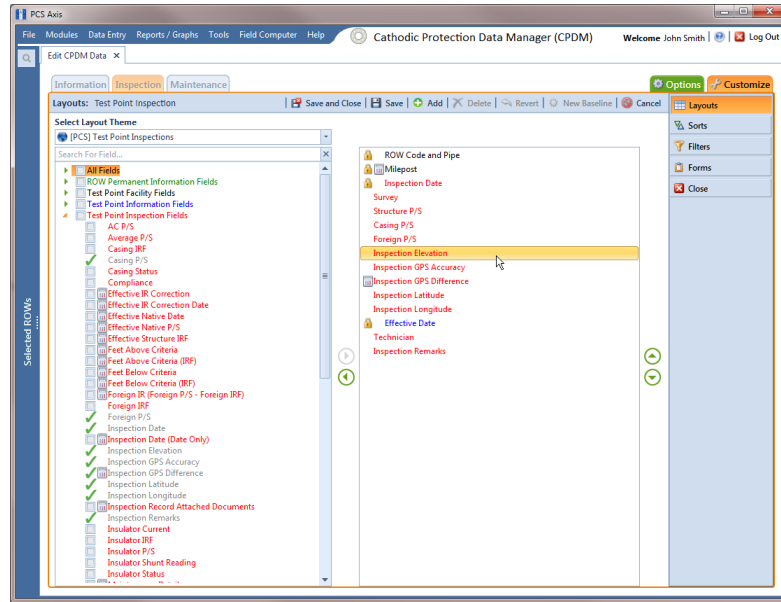

Figure 8-34. Layouts
- 3 Click the **Customize** tab  to view the *Layouts* page (Figure 8-34, page 409).